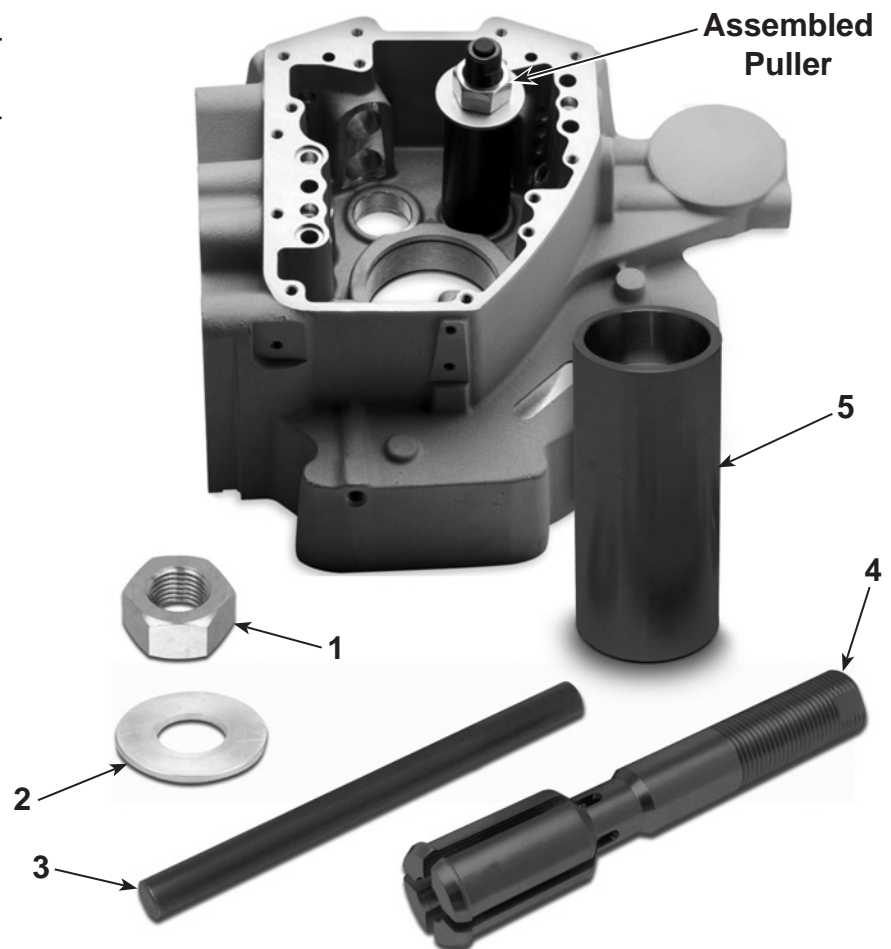

Figure 1
1. Push the inner cam bearing puller (item 4) through the cam bearing (grooved end first). You can tap the end of bearing puller with a soft, dead-blow hammer until the puller is completely through the cam bearing. See Figure 1.
2. Slide the remover body (5) over the end of the bearing puller (4). Ensure the bore of the remover body is facing the cam bearing.
4. Tighten the nut (1) until the washer (2) is snug against the remover body (5).
5. Apply a small amount of lubricating oil to the dowel pin (3) and insert the dowel pin through the center of the bearing puller (4) until its flush with the top of the puller.